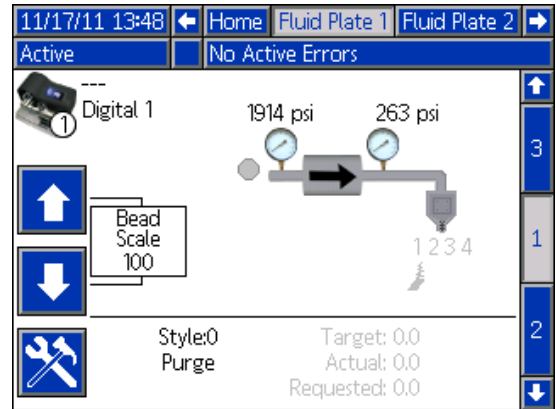

FIG. 30
4. Record the volume dispensed on Fluid Plate x, screen 1. See FIG. 30 on page 43.